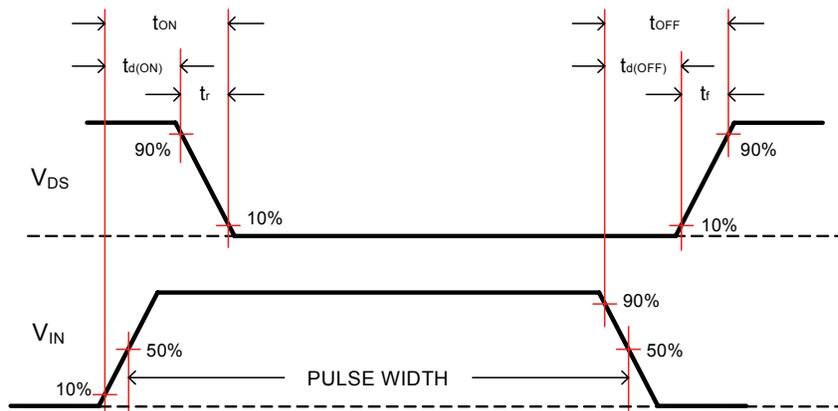

Figure 14. Switching Test Waveforms
3.  $t_{ON}$  and  $t_{OFF}$  include the propagation delay time of the internal driver IC. For the detailed information, please see Figure 14.